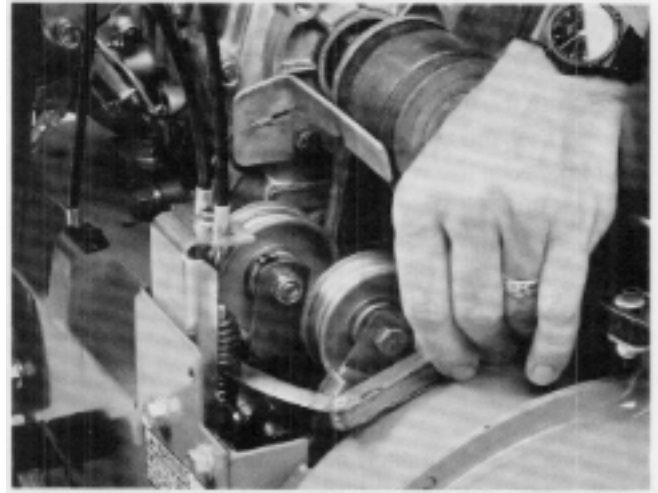

Figure 53
1. Depress the impeller lever. Proper tension is achieved when there is .25 mm (.010") clearance between coils of the impeller cable spring. See Figure 53.